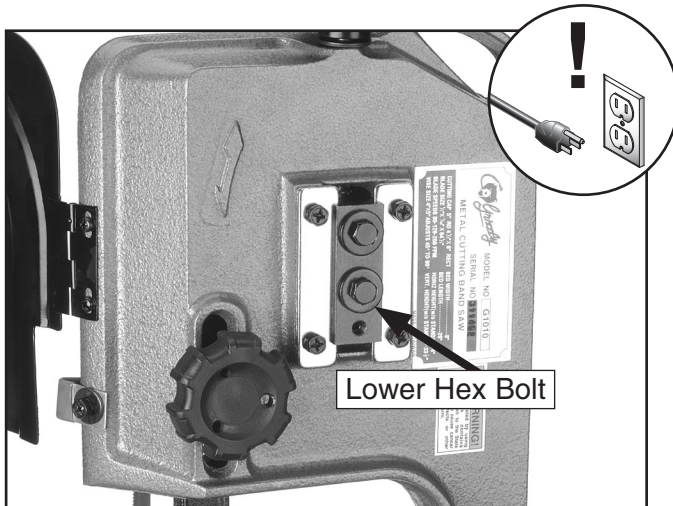

Figure 49. Blade tracking adjustments.
4. Loosen, but do not remove the lower hex bolt in the blade wheel tilting mechanism (**Figure 49**).